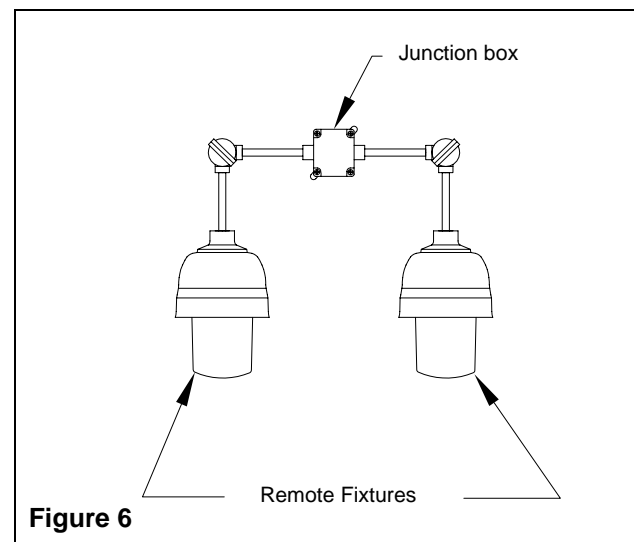

Figure 6
12. Remove junction box cover (see fig. 6). Remove conduit plugs from inside.